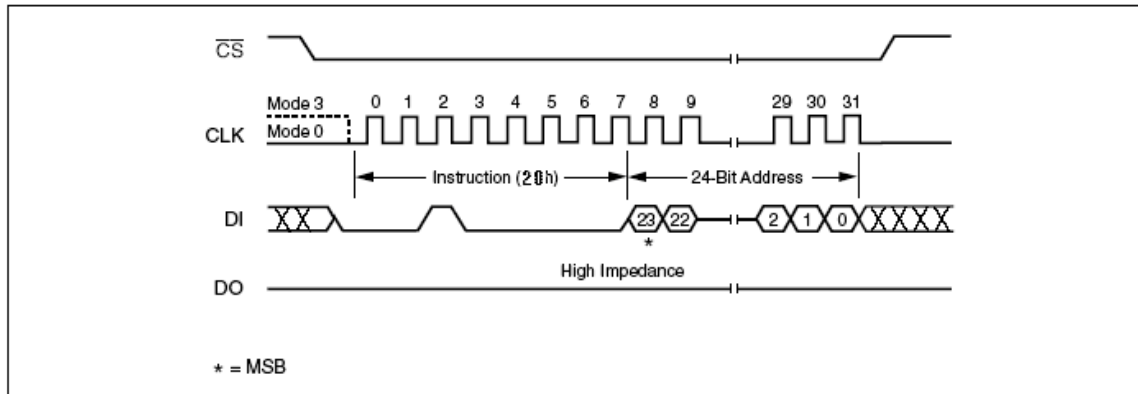

Figure 12. Sector Erase Instruction Sequence Diagram
The instruction sequence is shown in Figure 12. Chip Select (CS#) must be driven High after the eighth bit of the last address byte has been latched in, otherwise the Sector Erase (SE) instruction is not executed. As soon as Chip Select (CS#) is driven High, the self-timed Sector Erase cycle (whose duration is t_{SE}) is initiated. While the Sector Erase cycle is in progress, the Status Register